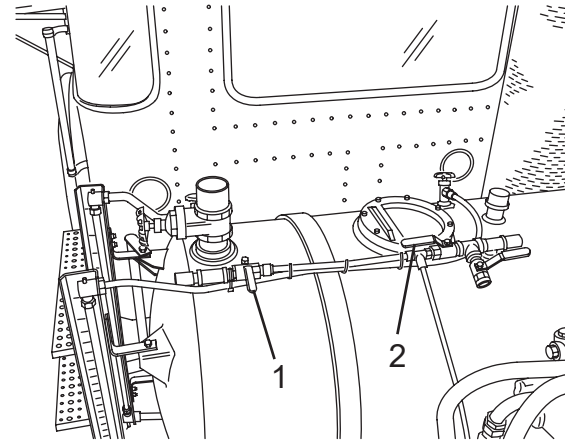

Figure 102
1. Open the air valve (Figure 102, Items 1 or 2) of the tank compartment to be pressurized. If equipped with an optional split tank, each compartment will have its own valve.